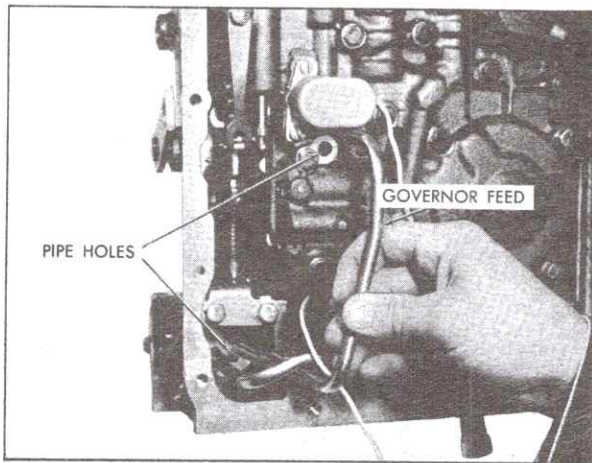

Fig. 7-142 Removing Governor Feed Pipe
3. Remove governor feed pipe from transmission case and valve body by lifting straight out, Fig. 7-142.